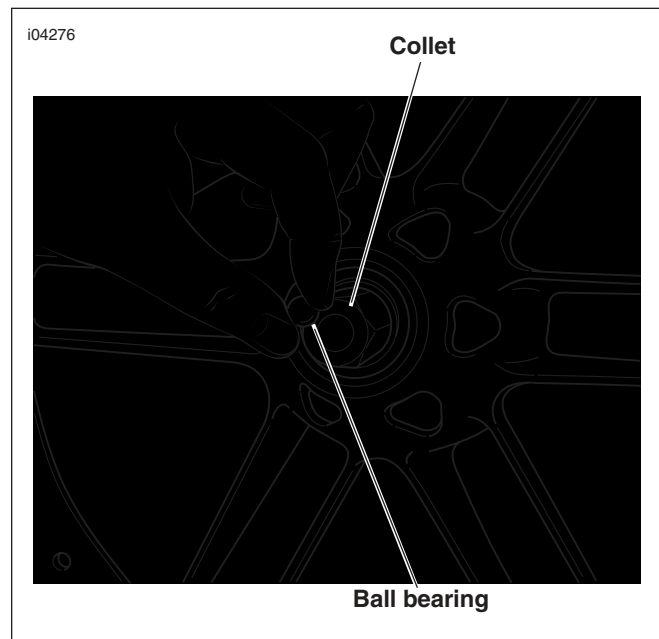

Figure 2-8. Install Collet and Ball Bearing
3. Assemble the short forcing screw (1), nut (2), Nice bearing (3), washer (4) and bridge (5) from the WHEEL BEARING INSTALLER/REMOVER (Part No. HD-44060).
4. See Figure 2-8. Insert the FRONT WHEEL BEARING REMOVER COLLET (Part No. B-43993-7, from kit Part No. B-43993-50) into the wheel bearing until it fully seats against the bearing.